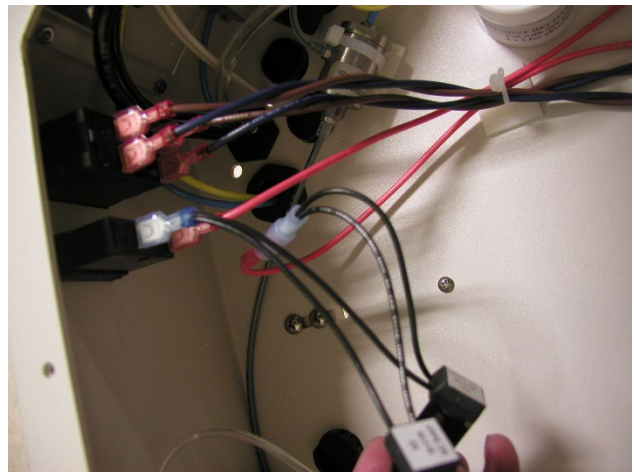

Fig. 2
- 7 Remove orange wire from switch. Cut off receptacle, strip outer coating and crimp on bullet connector in the air/electric switch assembly. (Fig. 2)
- 8 Attach the orange wire from the air/electric switch assembly with receptacle to switch. (Fig. 2)